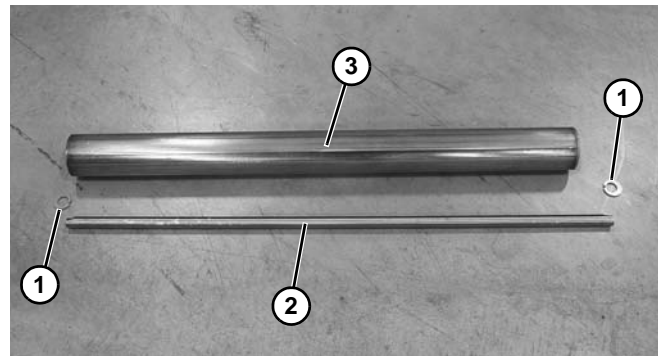

Figure 105
6. Remove the spacers (Figure 105, item 1) and shaft (Figure 105, item 2) from the idler pulley (Figure 105, item 3).